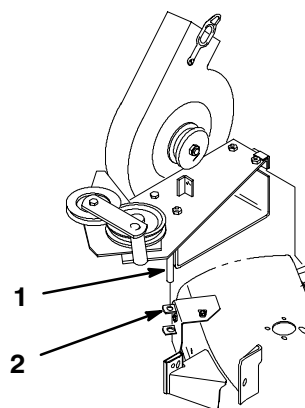

Figure 10
2. Install the blower by lowering the pivot pin into the pivot support (Fig. 10).